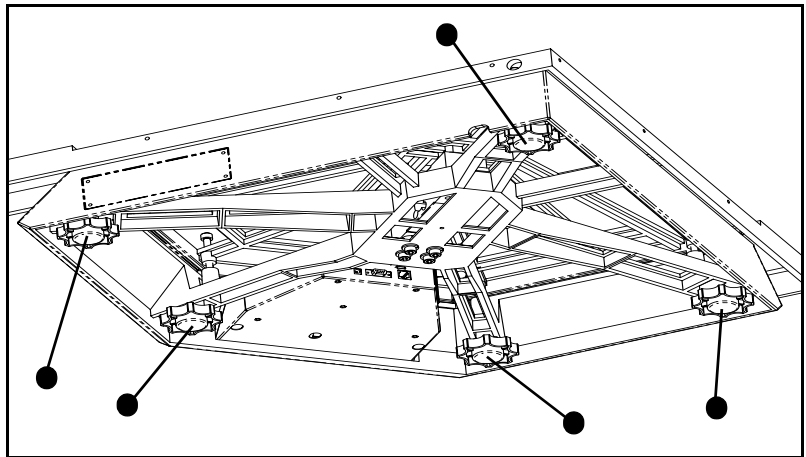

Figure 10
1. Locate the five leveling legs under the base. Their positions are indicated by the pointers in Figure 10 below.